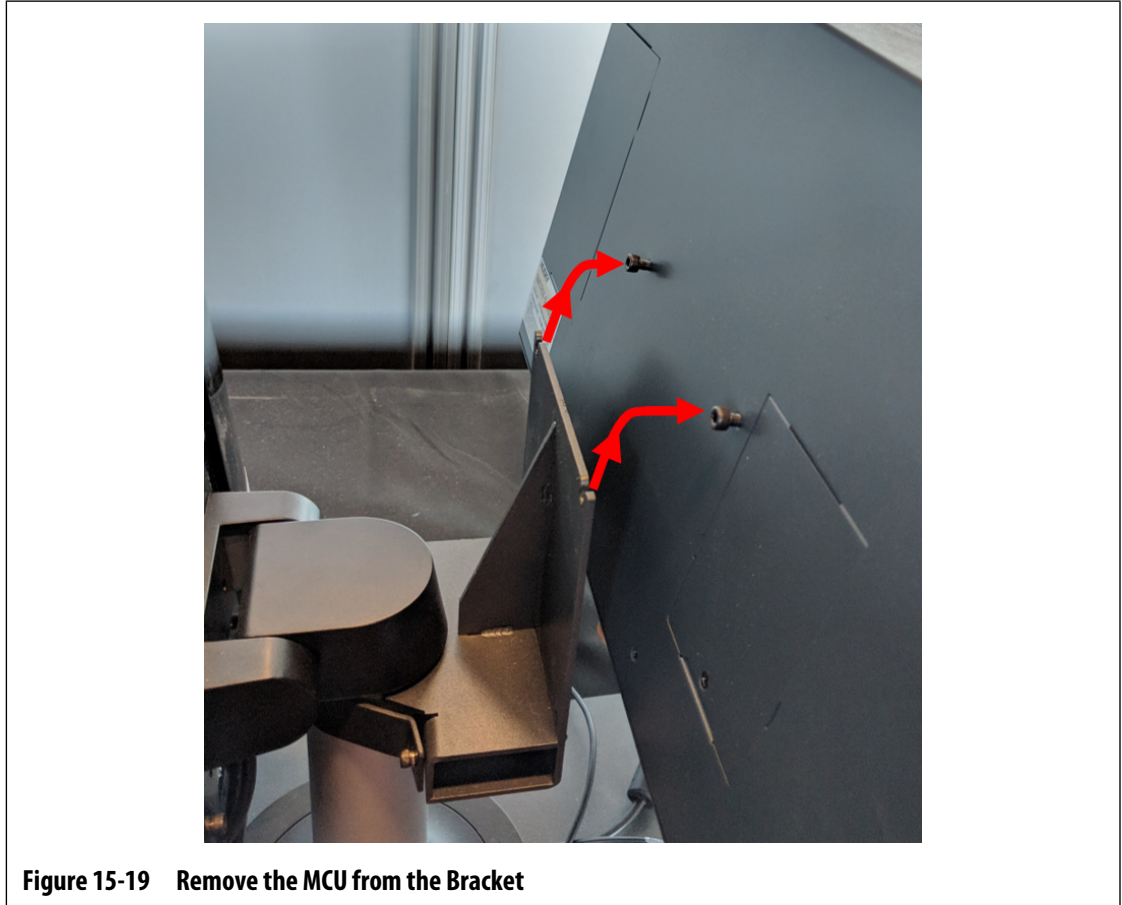

Figure 15-19 Remove the MCU from the Bracket
7. Securely hold the MCU and slide it up until the screws have cleared the upper mounting slots and pull forward to remove the MCU from the mounting bracket. Refer to Figure 15-19.